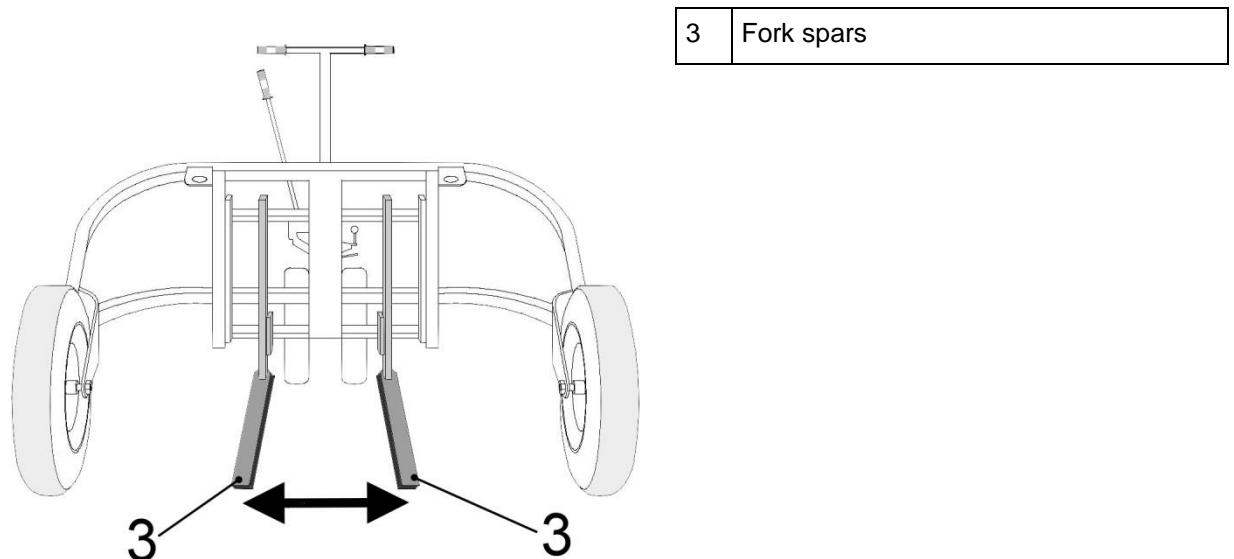

Abb. 1
- Lower the fork spars (3/Fig. 1) of the lifting carriage by turning the **operating lever II** counterclockwise.